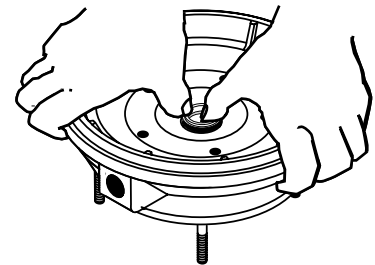

Figure 10
3. Put cardboard washer over seal face. With thumb pressure, press ceramic seal half firmly and squarely into seal cavity in seal plate (See Figure 10).